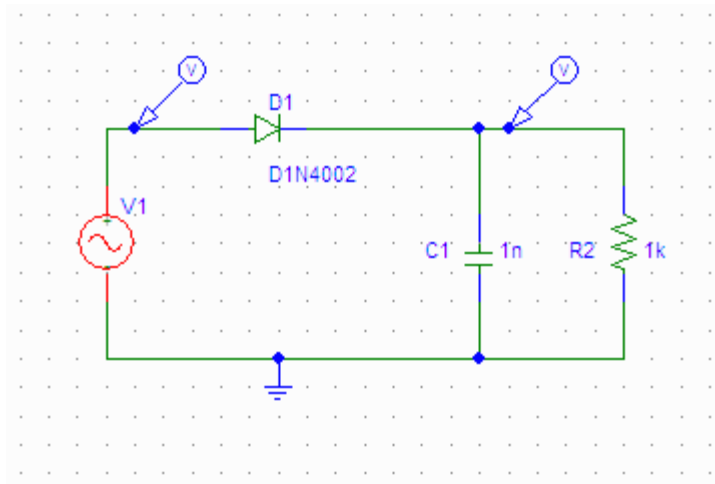

Figure 5-1
5. (10 points) Build the half wave rectifier circuit shown in Fig 5-1 in Pspice. Select a D1N4002 for D1. Set R2 = 1k $\Omega$  and C1 = 1nF. Add V1 as a sine source VSIN set for 10Vp at 60 Hz with no DC offset. Place two voltage probes for measuring Vin (V1), and Vo (at R2).